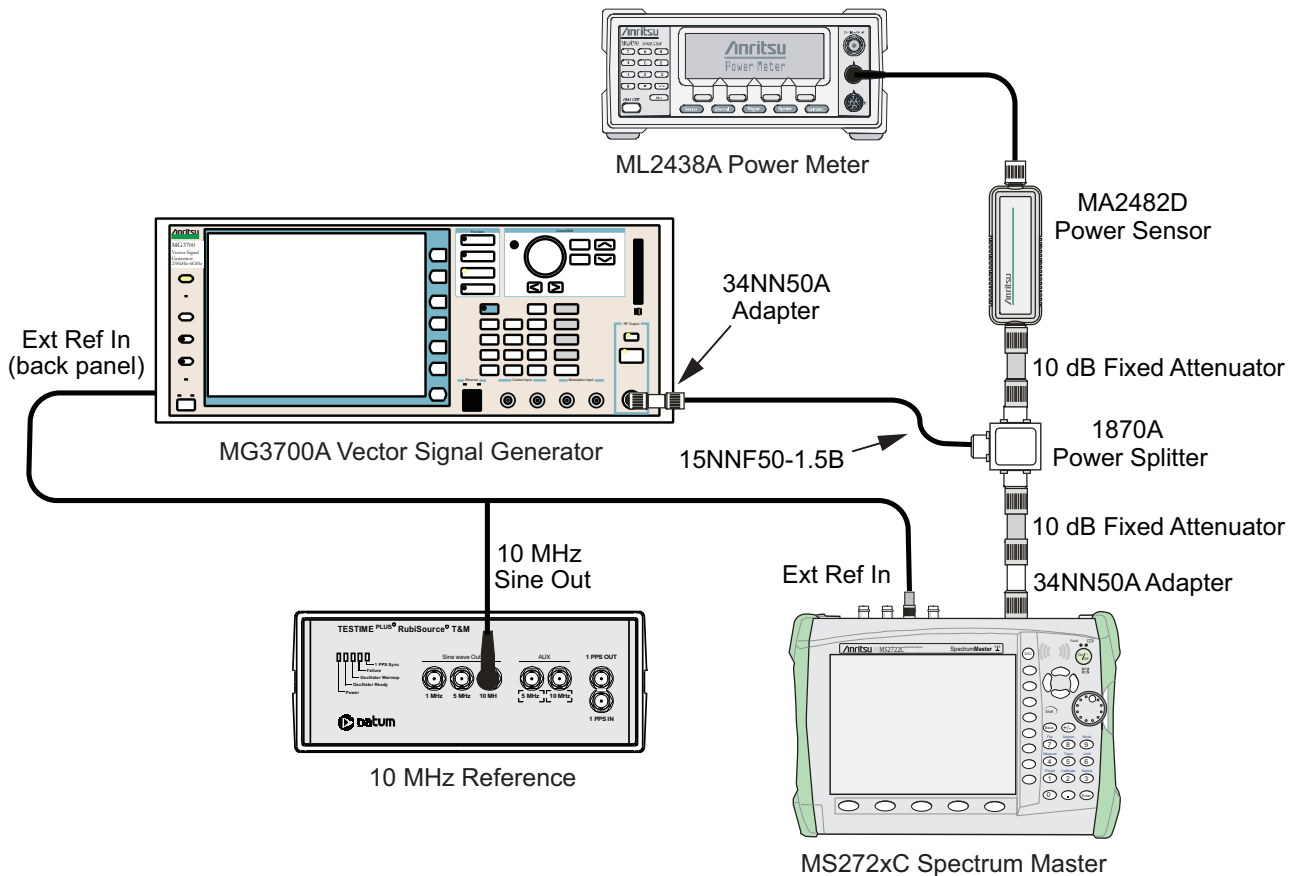

Figure 3-10. Mobile WiMAX Channel Power Accuracy Test Setup
4. Connect all of the test equipment as shown in Figure 3-10.